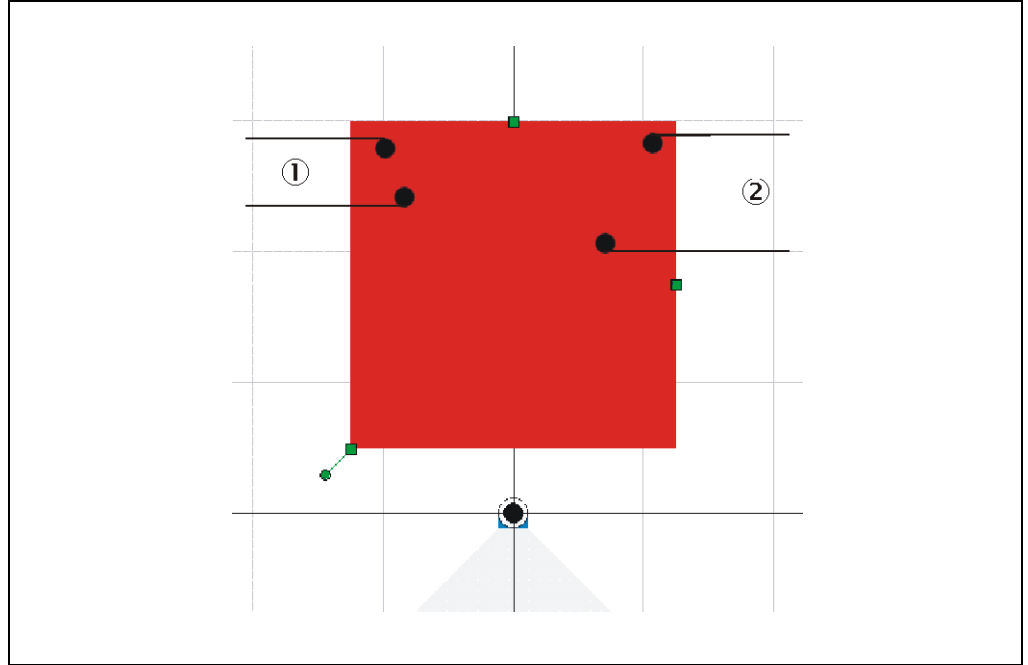

Fig. 31: Distance-dependent pixel evaluation
In **Fig. 31** the detections in example (1) are so close together (distance \leq value in the OBJECT SEPARATION field) that they are considered as one object. The evaluation field is considered infringed.